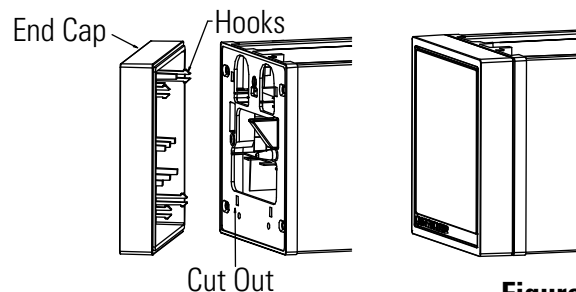

Figure 8
- A. Snap an end cap on each end of the run by inserting the hooks on the end cap into the cutout on the fixture's end casting. (Fig. 8)